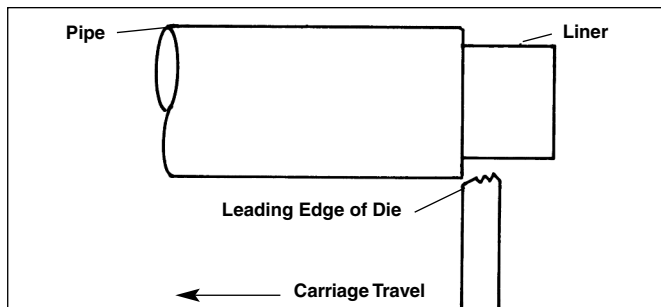

Figure 6 – Dies Flush with the Pipe
4. Move the carriage to position the leading edge of the dies flush with the edge of the pipe (Figure 6).
5. Push the release lever so it rests on top of the lockout plate as shown in Figure 6. This positions the dies to correctly start a thread.